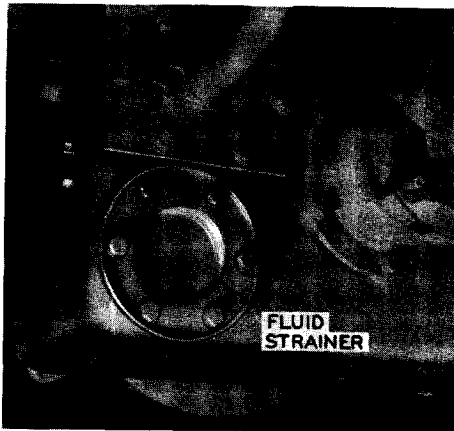

Figure 25. Transmission
2. Remove the fluid strainer, Figure 25, and clean with mineral spirits, using a soft bristle brush. Reinstall clean strainer screen in transmission.